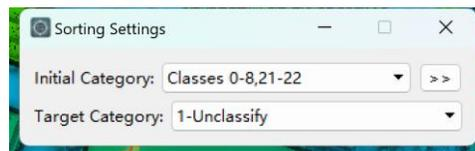

Figure 3-156 Sorting Settings
- (1) Click menu <Profile>→<Classification on the folding lines> to bring up the Category Setting dialog box (Figure 3-156).